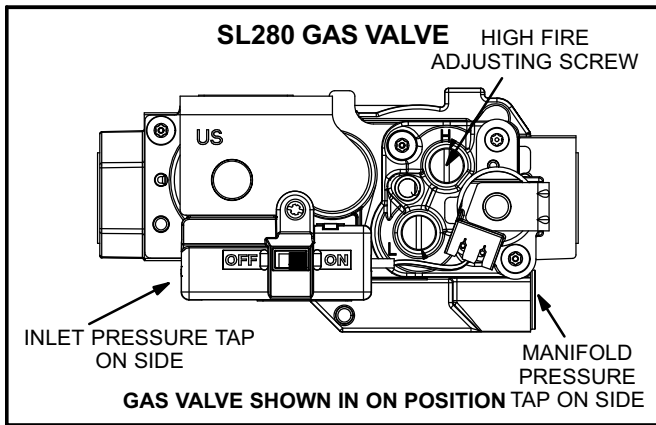

FIGURE 3
- 2 - Remove the access panel. Move the automatic gas valve switch to **OFF**. See figure 3.
- 6 - Move the switch on the gas valve to **OFF**. Do not force the switch. See figure 3.
- 1 - Connect test gauge to manifold pressure tap (figure 3) on gas valve.
- 4 - If necessary, make adjustments. Figure 3 shows location of high fire adjustment screw.